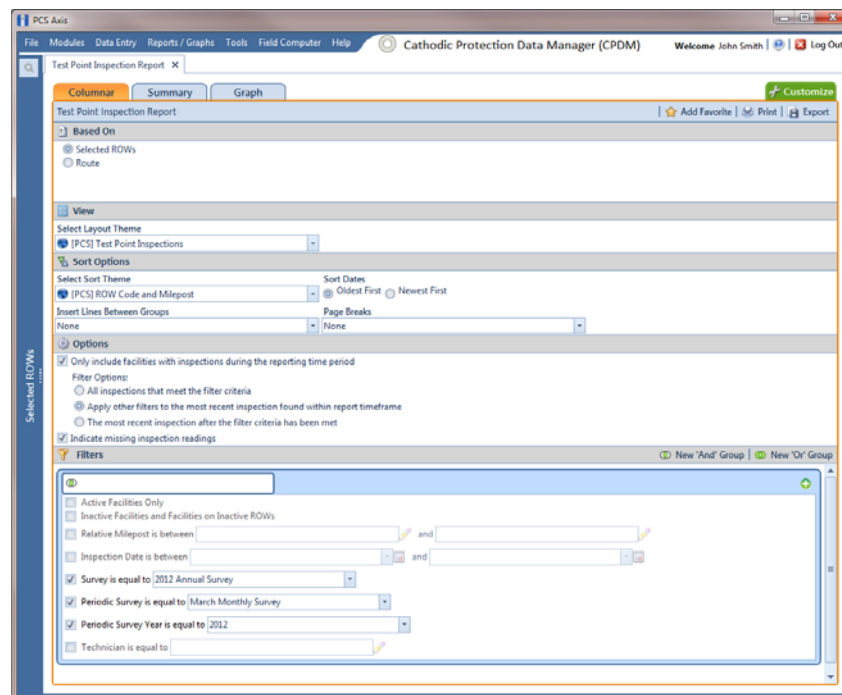

Figure 16-24. Test Point Inspection Report (Summary)
- 7 Select one or more of the following survey filters in the *Filters* group box. The *Summary* report requires at least one of these filter settings (Figure 16-24):